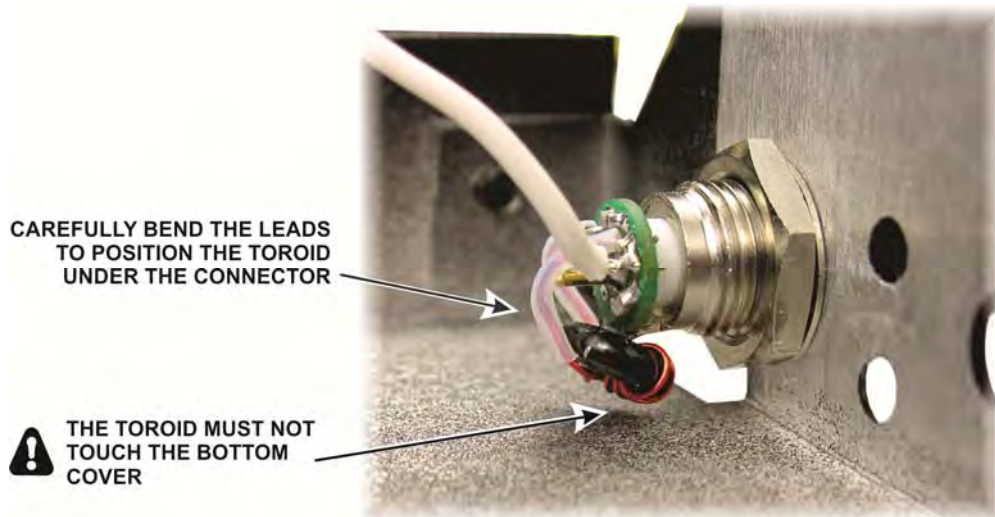

Figure 36. Positioning the LPF Toroid Under the Antenna Connector.
□ Carefully bend the leads to position the toroid underneath the antenna connector as shown in Figure 36. **Be sure the toroid does not rest against the bottom cover.**